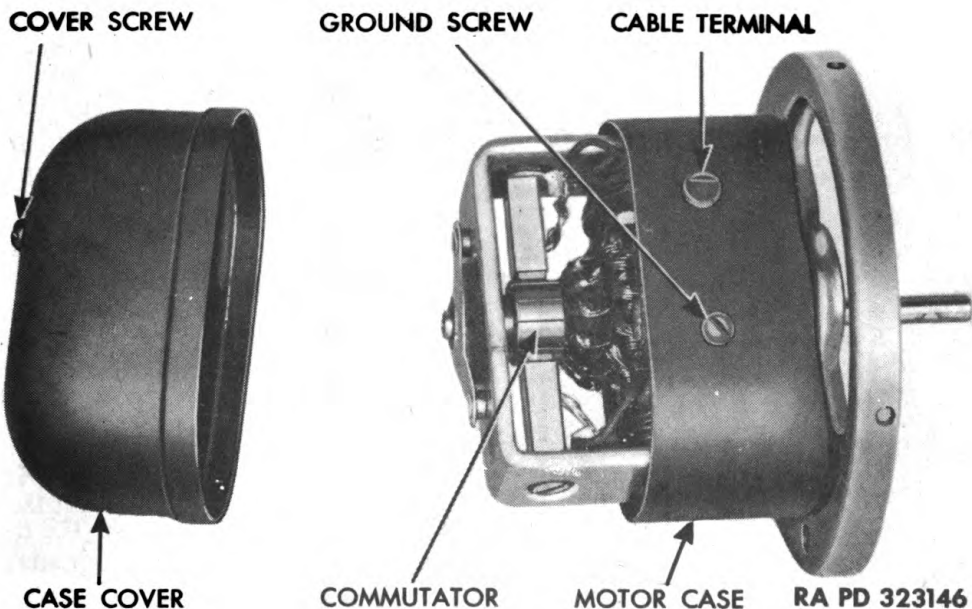

Figure 147 — Siren Motor Case Cover Removed
c. **Remove Armature (figs. 147 and 148).** Take out screw in motor case cover, and remove cover. Remove two nuts and lock washers which attach motor yoke, motor case, and motor support